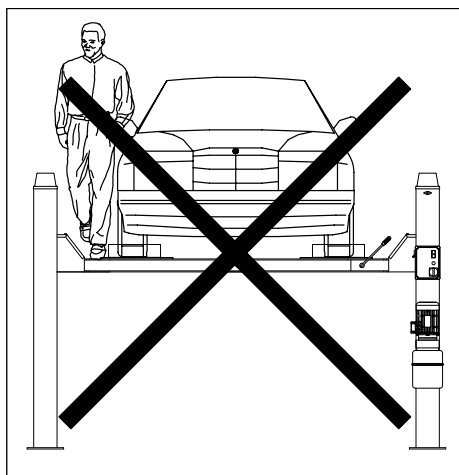

Fig. 17
- Make sure that there are no persons on the platforms during up and down movements and during standing (Fig. 17).